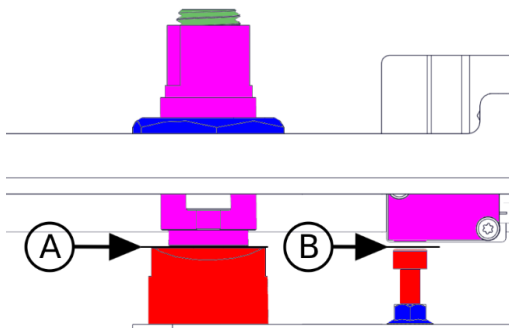

Figure 21 - MPB Holder gap and MPB Trigger gap
3. Turn the MPB holder **(2)** half turn anticlockwise to create a small distance between the MPB holder and the foot. See (A) Figure 21 - MPB Holder gap and MPB Trigger gap